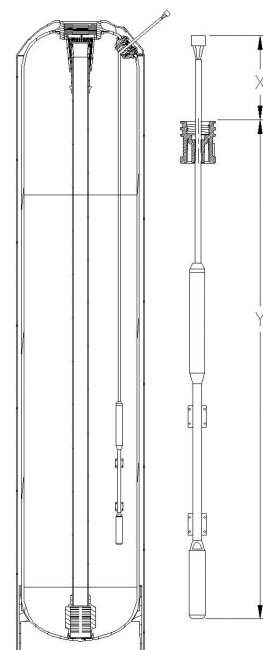

Figure 10.
3. Install the outlet manifold into the tank (Figure 10).
- a. Measure the sensor cable length as shown in Figure 10 and Table 2 (the Aqua-Sensor cord is set at the factory for a 9" tank). Dimension "X" is the exposed length the Aqua-Sensor® cord (cord length from the Aqua-Sensor plug to the circuit board connector). You can then verify the Aqua-Sensor probe is inserted to the proper depth by confirming dimension "X" is at the corrected length.